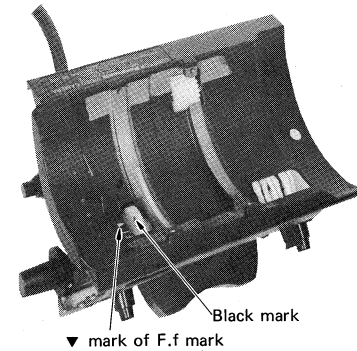

Fig. 19
- Put together the black mark of potention gear to ▼ mark of F.f mark. (Fig. 19)